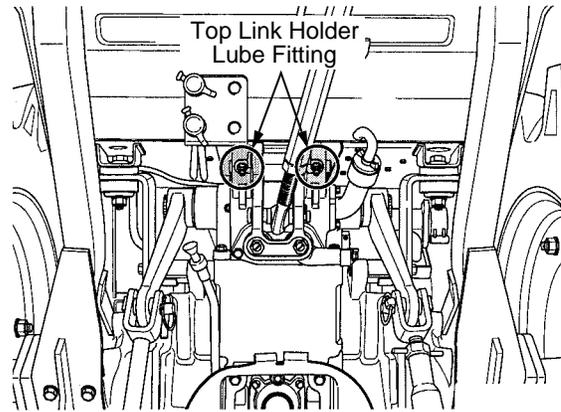

Figure 73
- 3 Point top link holder (each side). See Figure 73.